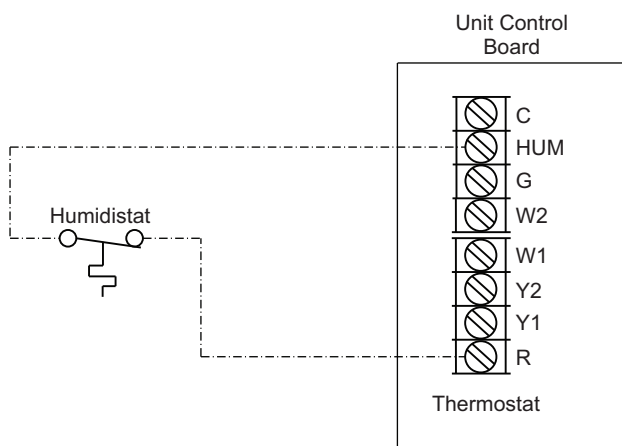

Fig. 42 — Humidistat Connections to UCB
5. Connect one of the leads from the 2-conductor cable to the HUM terminal on the UCB (Unit Control Board). Connect the other lead to the R terminal on the UCB. See Fig. 42.